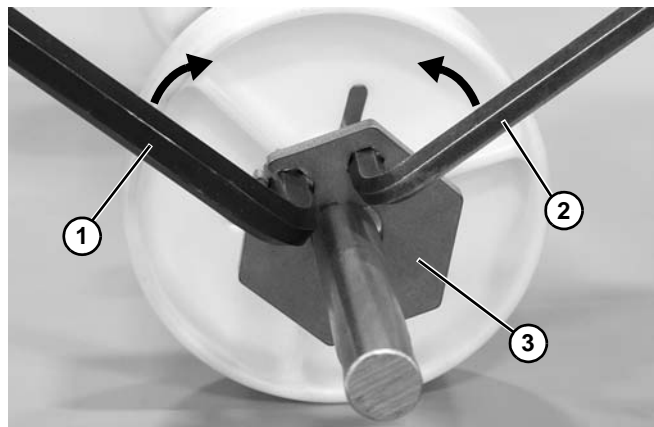

Figure 63
- a. Insert an 8 mm (**Figure 63, item 1**) and 6 mm (**Figure 63, item 2**) hex wrench into the retainer plate.
- b. Move wrenches toward each other to open the retainer plate (**Figure 63, item 3**) and install onto the shaft. Position retainer plate where needed.